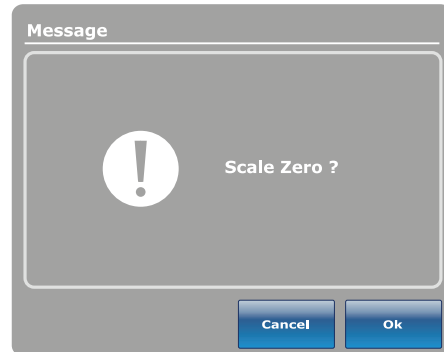

Figure 1-24: Scale Zero?
2. To confirm setting the scale to zero, tap **Ok** (Figure 1-24 on page 1-46).
To cancel the request, tap **Cancel** (Figure 1-24 on page 1-46).